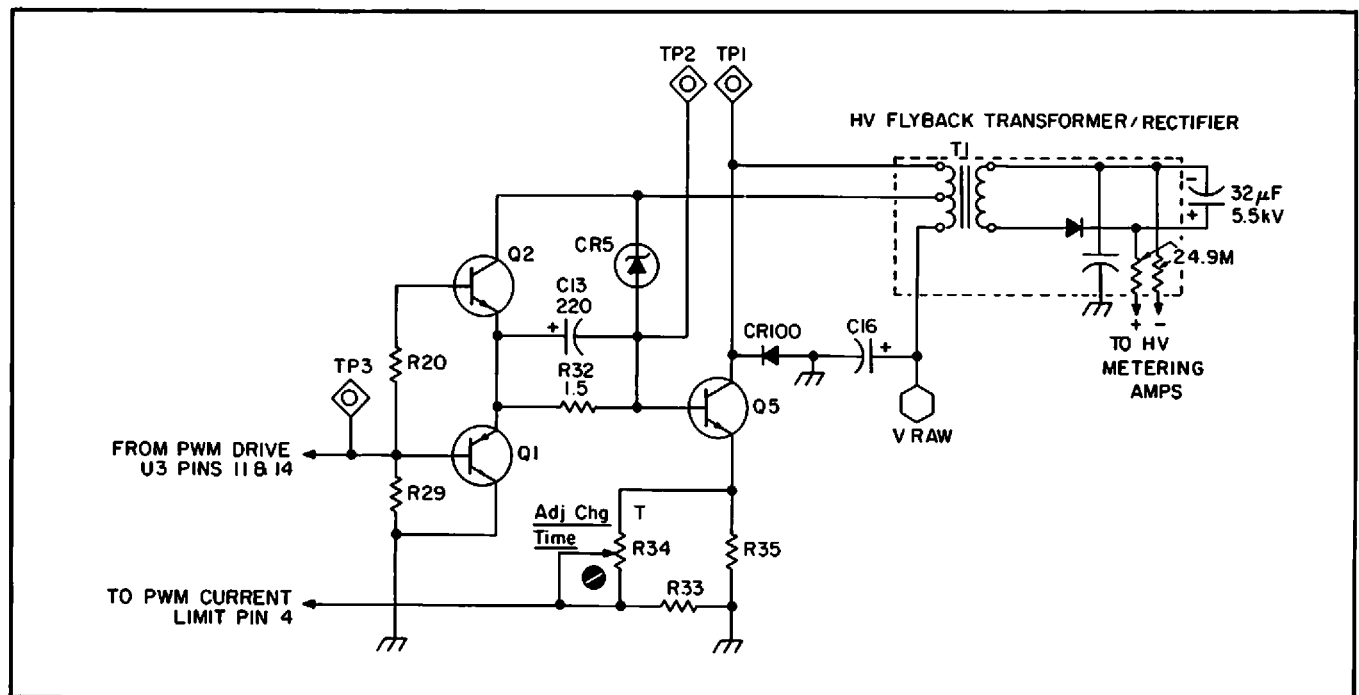

Figure 2-48
2.3.12 HV Defibrillator Inverter Circuit (Figure 2-48)